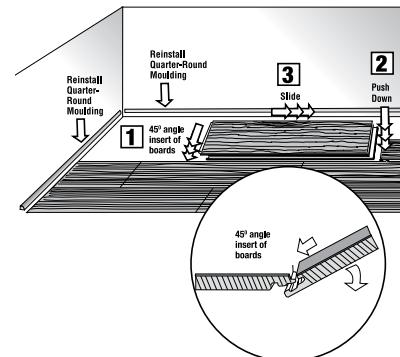

Fig. 7
- Replace the damaged board with a new one. Reassemble the floor (Fig. 7).